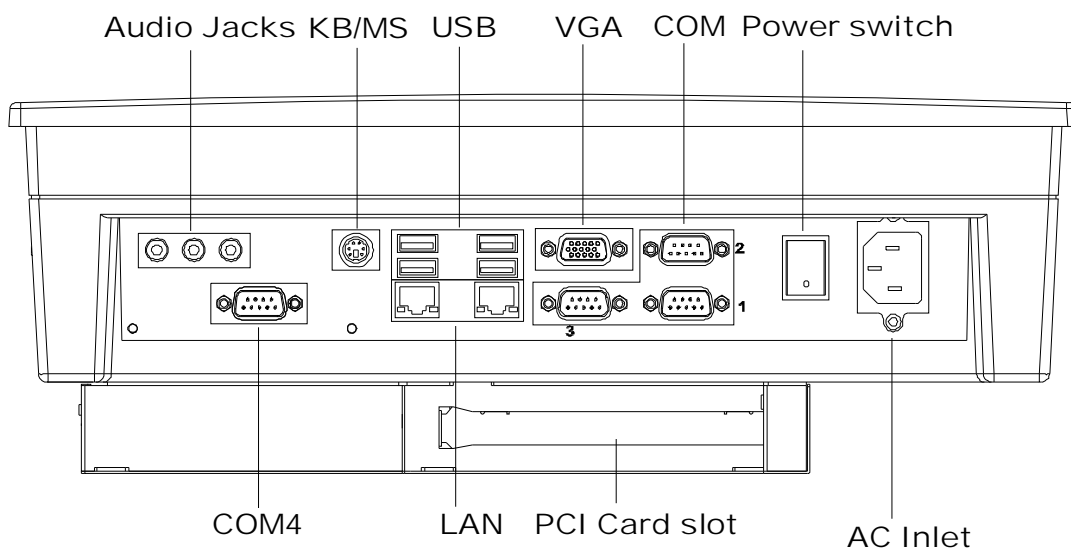

Figure 3.3 I/O Ports
2. Attach the interface cable of the serial device to the panel PC's serial port. (See Figure 3.3.) If necessary, attach the other end of the interface cable to the serial device. Fasten any retaining screws.
2. Connect the external monitor to the system. (See Figure 3.3.)
1. Connect the external device to the system. (See Figure 3.3)
The audio interface includes three jacks: Microphone in, Line out and Line in. (See Figure 3.3) Their functions are:
1. Connect the audio device to the system. (See Figure 3.3)